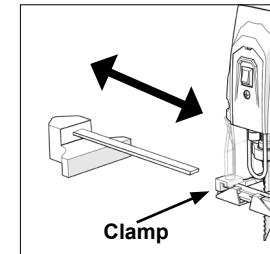

Fig 11
- Locate the clamp in the required service position on either the right or left hand side of the machines footplate just ahead of the blade. (**Fig. 11**).
- Slide the arm of the Parallel Edge Guide through the clamp and through the two (2) rectangular slots in the footplate.